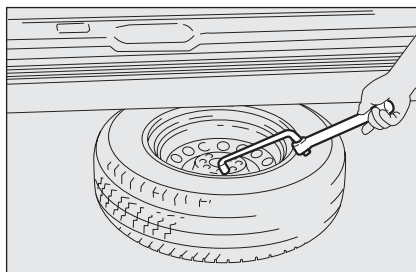

fig. 6
- ☐ use the wheel dismantling spanner to remove the wheel from the vehicle **fig. 6**;